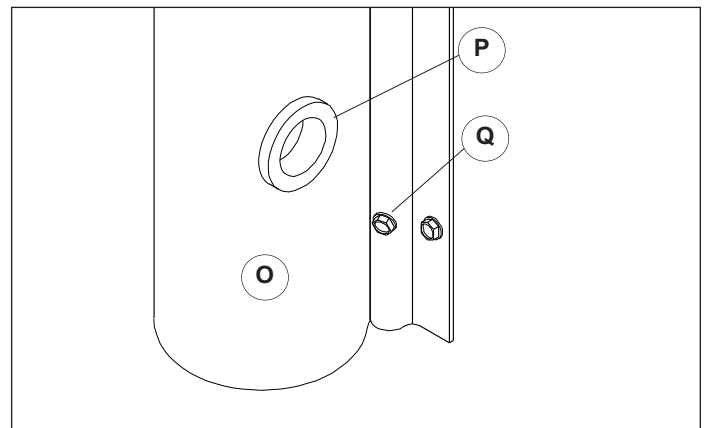

Figure 11.4
5. With air seal tight to floor and exhaust hole (P) free and toward the warm side (C), place a screw in the predrilled holes of the retainer, 3" [76] from the top and bottom (E) to hold in place, **Figure 11.4**.
6. At the top of the side seal, pull seal taught, making sure seal is twist and wrinkle free and place screw through bulb (Q) to prevent from sliding down (D).
9. Side view orientation w/insulation toward cold side (F).
10. Junction box (G) and optional step down transformer (H).
11. Lintel seal (J).
12. Lintel seal (K), Lintel front rail (L), Panel stop (M), Horizontal wall rail (N).